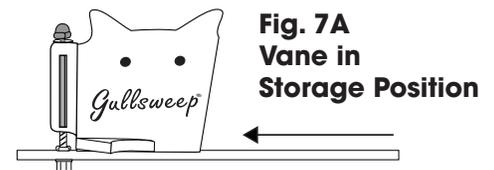

Fig. 7A
**ASSEMBLY:** This **GULLSWEEP**® has been pre-assembled for your convenience. All you need to do is follow the directions for the mounting parts (GS-4 Deck Mount) or the other non-permanent mounting accessories. When placing your **GULLSWEEP**® onto the center mounting pin, fold the arms out and, remember to take the vanes out of the storage position (Figure 7A), or the unit will not work. The vanes snap off to the left side of the support rod when looking down over the center hub (See Figure 7). The vanes will thus be on opposite sides from each other (See Figure 6).
**When Storing GULLSWEEP**® lift vane up against top spring and rotate over rod (Figure 7A). Vanes will be parallel to each other when rods can be folded up thus taking any strain off the vanes hinge point. Your **GULLSWEEP**® is shipped with vanes in storage position (see Fig. 7A)